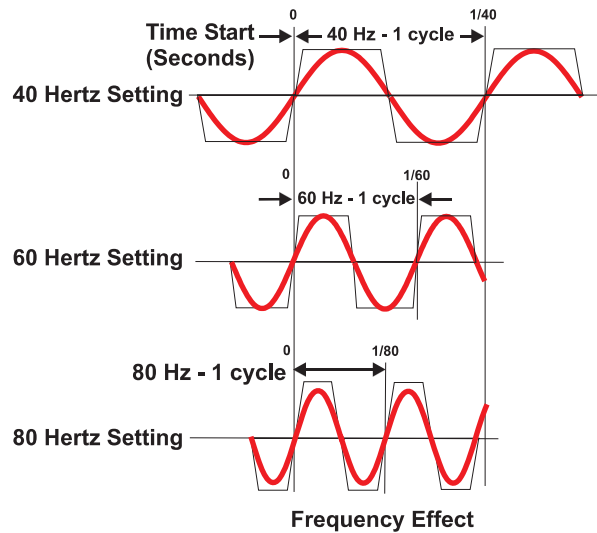

Figure 6
Figure 6 illustrates conventional sine waves (in red) overlaid upon Power Wave AC/DC 1000™ square waves to illustrate frequency effect. The Power Wave AC/DC 1000™ permits adjusting the frequency continuously from zero (DC) to 100 Hz. The voltage and current values are identical for all three curves.